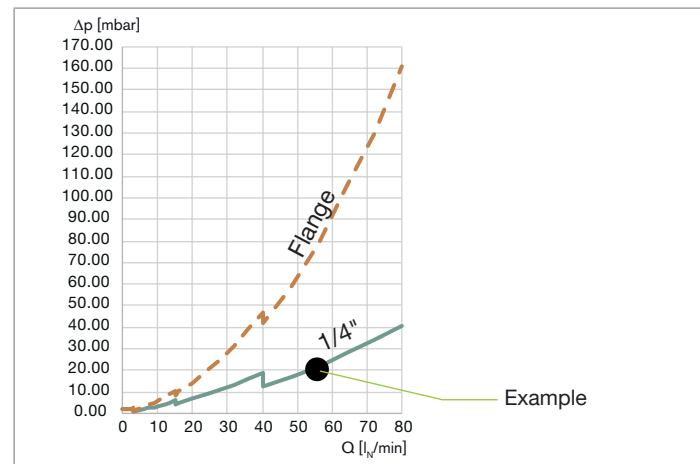
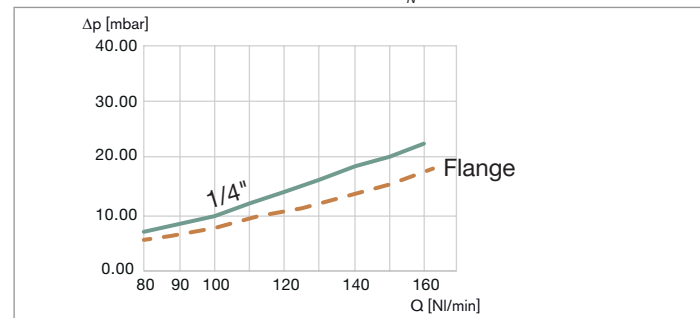

Fig. 8: Pressure loss diagram, MFM with a 25 μm mesh filter, for air, in the measurement range 0...80 $\text{l}_\text{N}/\text{min}$
Fig. 9: Pressure loss diagram, MFM with a 250 μm mesh filter, for air, in the measurement range 80...160 $\text{l}_\text{N}/\text{min}$
→ If the operating gas is air, read the pressure-loss value directly from the diagram in Fig. 8 or in Fig. 9. For example, if the flow rate through an MFM with 1/4" threaded fluid connections is 55 $\text{l}_\text{N}/\text{min}$ then the pressure loss Δp_{air} as given in Fig. 8 is 20 mbar.
1. If the flow rate is $55 \text{ l}_N/\text{min}$ then the air pressure-loss ΔP_{air} as given in Fig. 9 is 20 mbar.